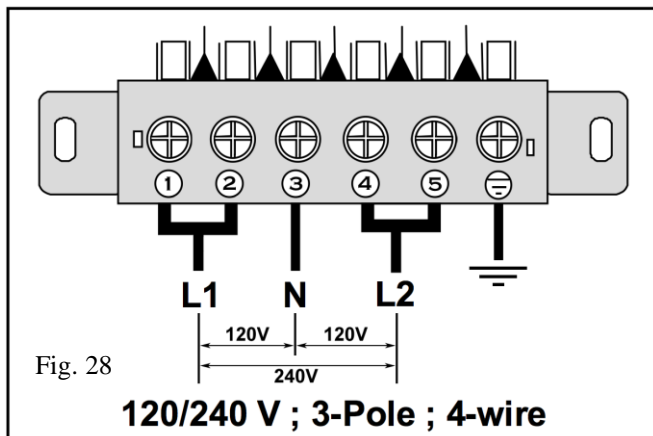

Fig. 28
- Connect to terminal block in accordance with figure 28.